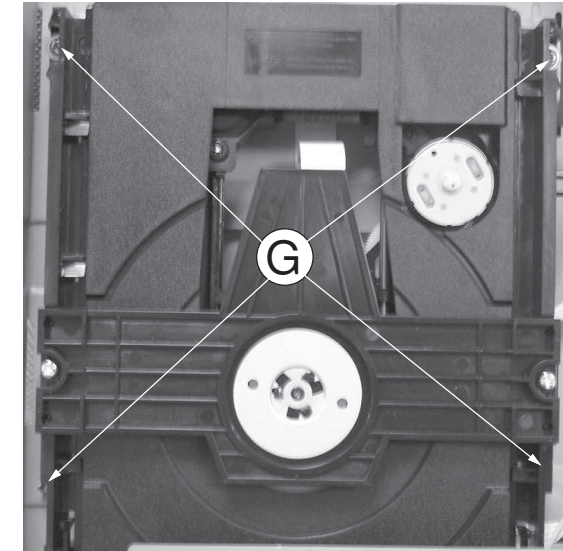

Figure 11
- 1) Loosen 4 screws "G" at the DVD module as shown in figure 11.